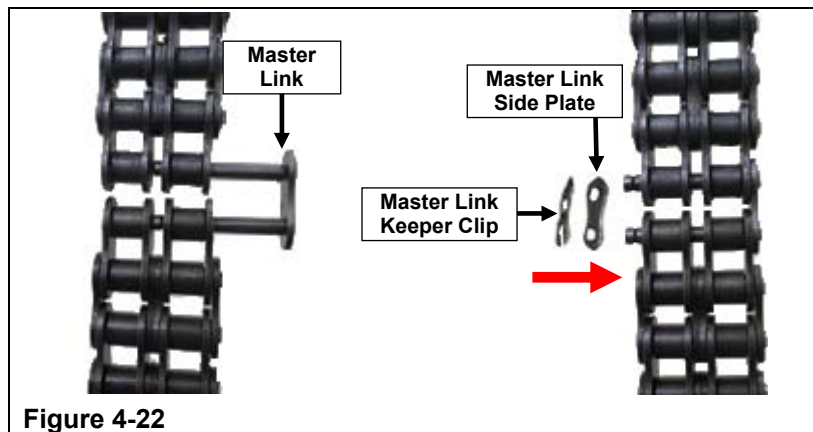

Figure 4-22
- Step 7. Attach the NEW roller chain section to the OLD roller chain section using a roller chain main link and all other hardware. (Refer to Figure 4-22)